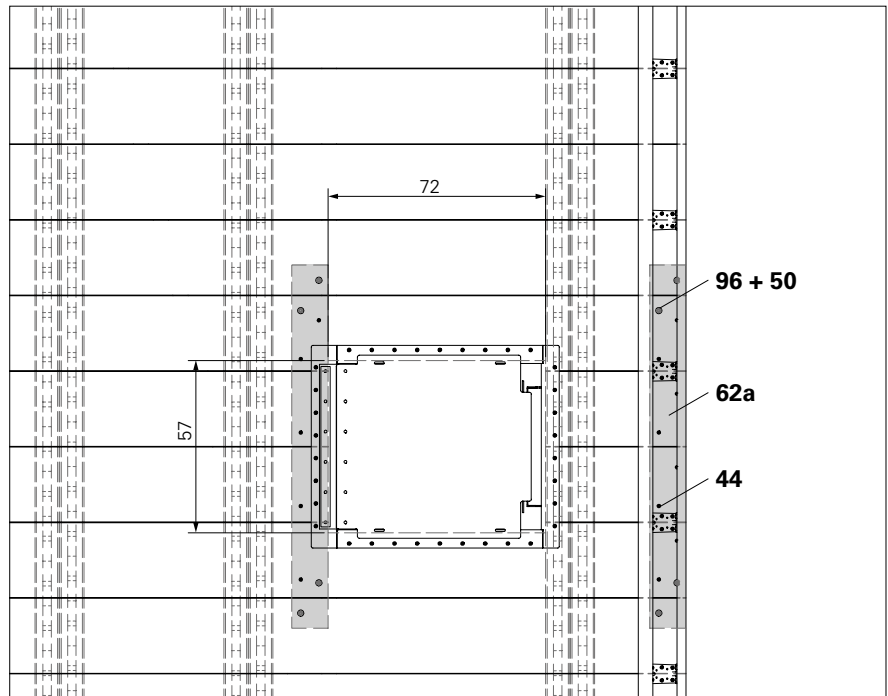

Fig. B5.01
3. Screw the timbers (**36a**), 2x respectively, to the laterally continuous planks using bolts M8 x 100 (**96**), nuts and washers (**50**). (Fig. B5.01)